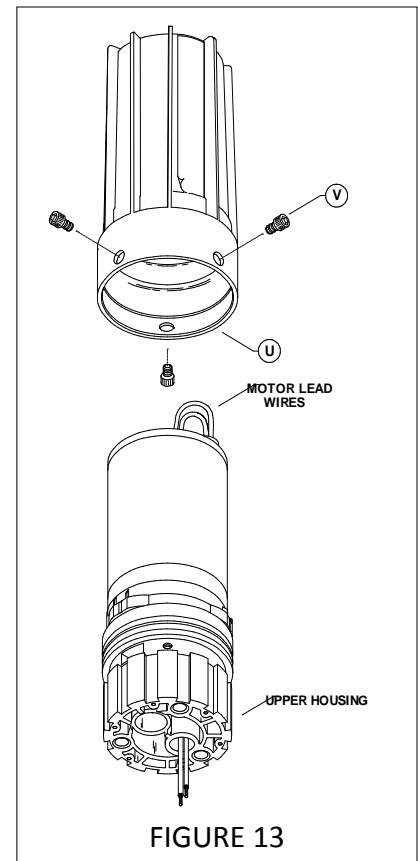

FIGURE 13
6. Install the Canister (U) (Fig. 13)
7. Install the Screws (V) (Fig. 13)